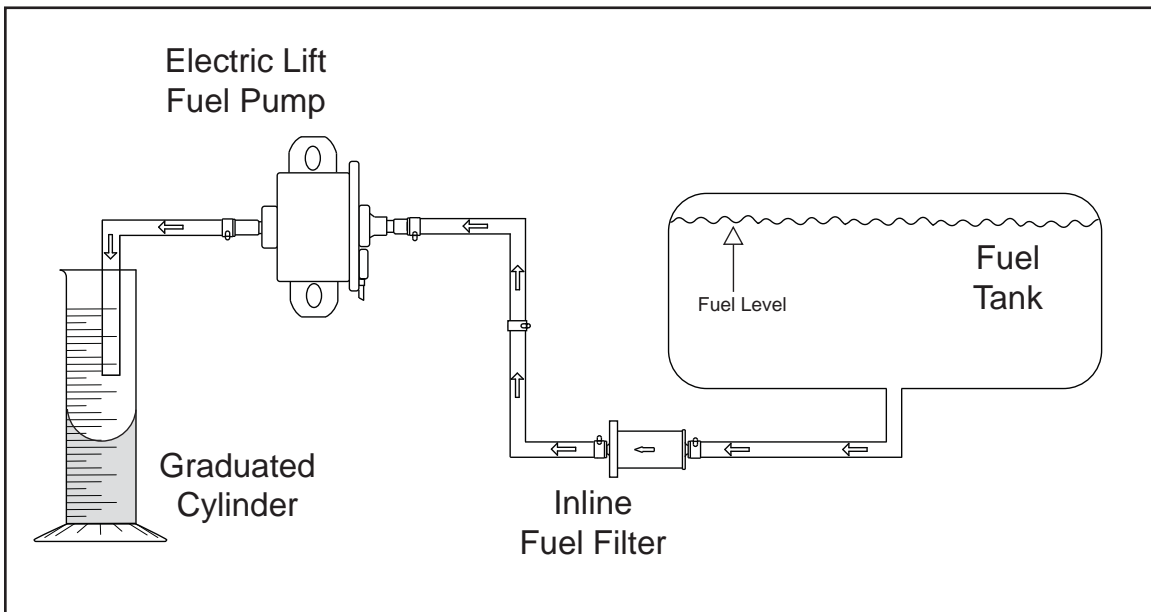

Figure 5-28 Perform Volumetric Test.
5. Attach suitable hose to fuel outlet port and direct free end into graduated cylinder. See Figure 5-28.